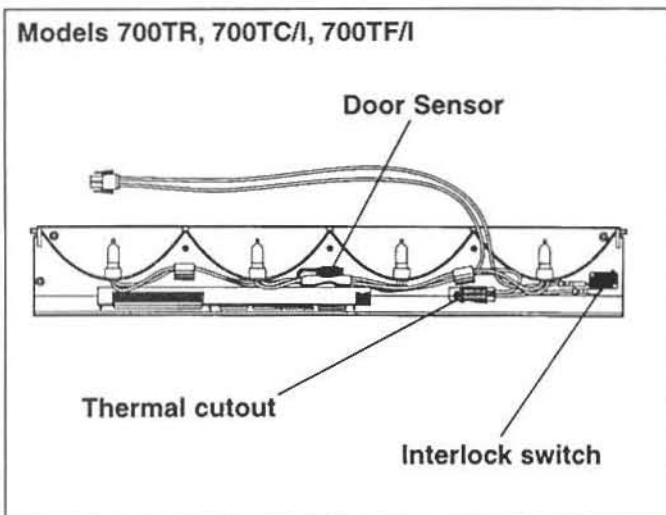

Figure 2-9. Control Panel Electrical Connections
3. Disconnect the leads supplying power to the control panel. Remove the three front mounting screws. The center screw is the ground screw (Figure 2-9).
4. Pull the complete upper control assembly forward and down, (which includes the control board, glass light diffuser, reflectors and halogen lamps (Figure 2-9).